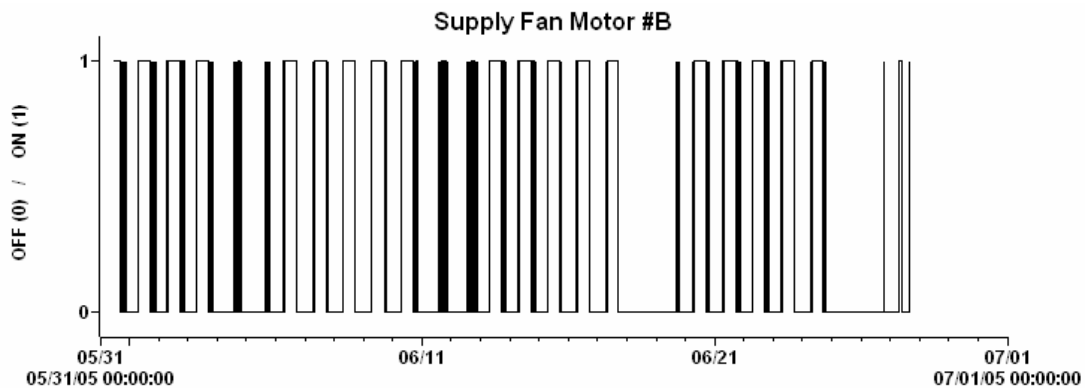

Figure 6: Data graph in Boxcar software
7. A graph of your data will automatically appear on the screen. *Figure 6*
1. On the graph above (*figure 6*) the value of 0 means the motor was off and the value of 1 means that the motor was on. The date and time are shown on the horizontal axis and the on/off status is shown on the vertical axis.